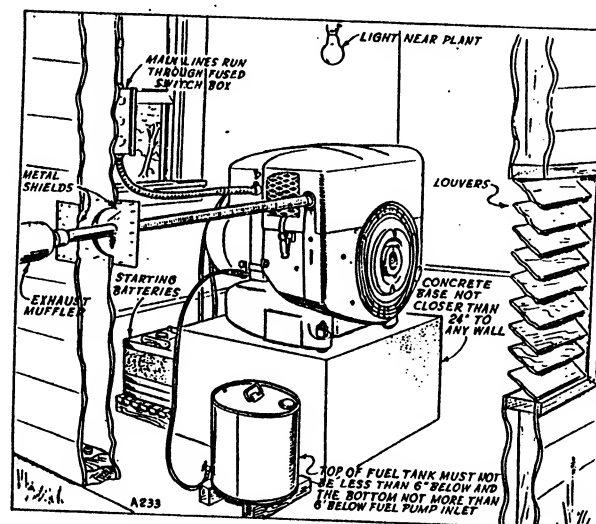

FIG. 2 - TYPICAL INDOOR INSTALLATION
**EXHAUST LINES.** - All exhaust gases must be piped outdoors. Use pipe as large as the exhaust outlet at the plant but increase the pipe size by one size for each 10 feet used. A short length of flexible tubing must be installed between the plant and any rigidly mounted exhaust line or connection. Keep the exhaust pipe 9 inches away from inflammable materials and provide shields for the pipe when it passes through a wall or partition. See Fig. 2. The hole through which the exhaust pipe passes in a partition or a combustible outside wall should provide at least 2 inches of clearance completely around the exhaust pipe.